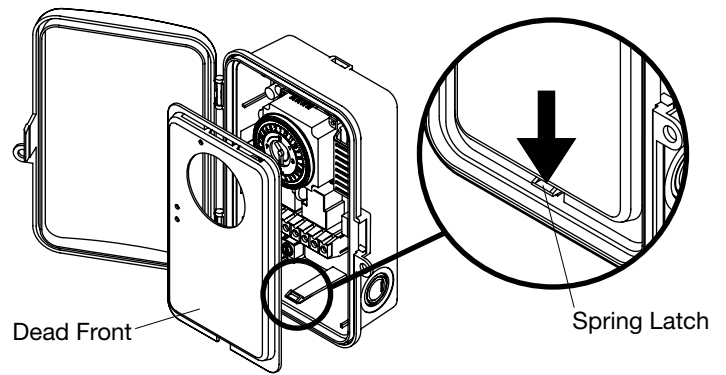

FIG. 3 Remove the Dead Front
2. Open door and remove dead front by releasing spring latch on bottom. See FIG. 3.